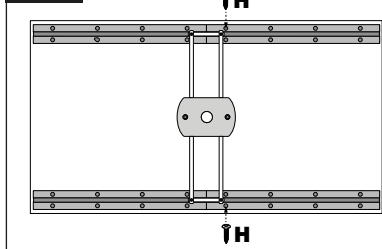

Fig. 6a
- Move router carriage & ski assembly to right hand side. – (Fig. 6a)